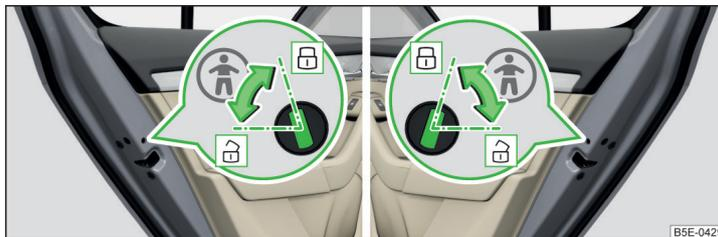

Fig. 37 Rear door: Switching the child safety lock on/off
- To **switch on**, turn the parental control with the vehicle key in position  » Fig. 37.